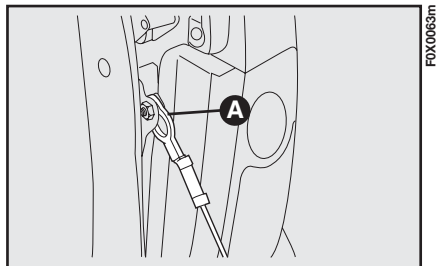

fig. 82
- remove the retaining devices A-fig. 82 (one per side) for the side rods;